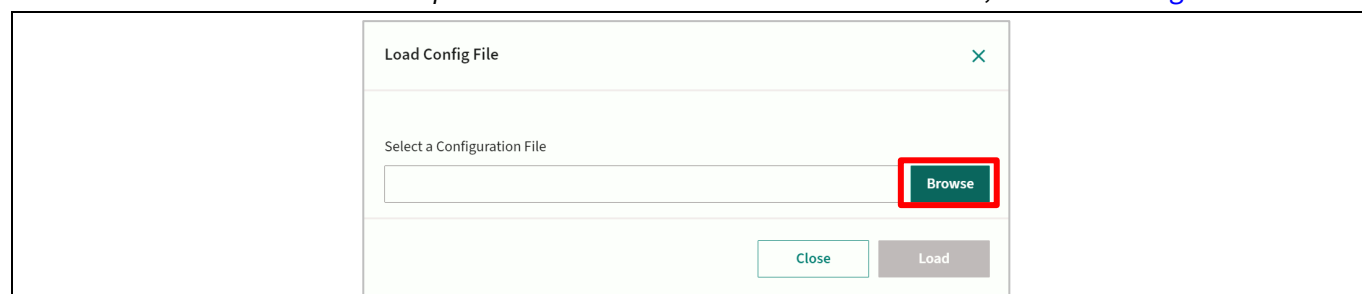

Figure 38 Browse to select the necessary configuration file
2. Click **Browse** and select the `.xdp` file that needs to be loaded onto the device, as shown in Figure 38